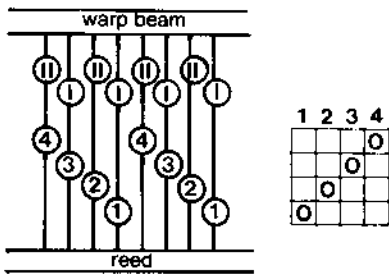

FIGURE 4
Fig. 4 shows one pattern block (A). Each block has a multiple of 4 warp threads. The pattern shafts are called I and II, the ground shafts 1, 2, 3, and 4. All the threads through 1 and 3 also go through I, all the threads through 2 and 4 go through II. The tie-up of Fig. 4 shows that each ground shaft has its own treadle. For each weft pick one ground shaft has to be raised. The treadles are used in sequence 1, 2, 3, 4.